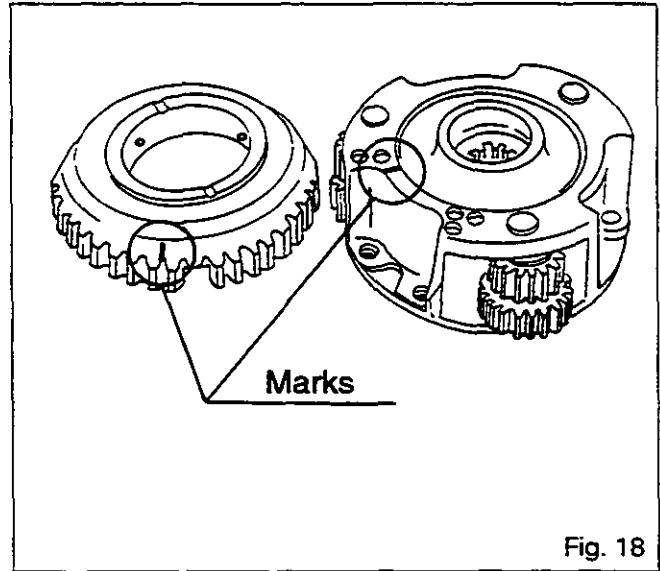

Fig. 18
N.B. : Position the two covers so that the balancing marks (milled grooves or paint lines) are as far away from each other as possible (Fig.18).
52. Refit bolts (3). Bolts must be tightened to a torque of 10 - 14 Nm.
- that discs (42) and (45) are not compressed
55. Fit planetary carrier assembly (50) to shaft (5).
56. Fit Belleville spring disc (18).
57. Fit pressure plate (20) into housing (13).
58. Engage friction disc (21) onto the planetary carrier assembly.